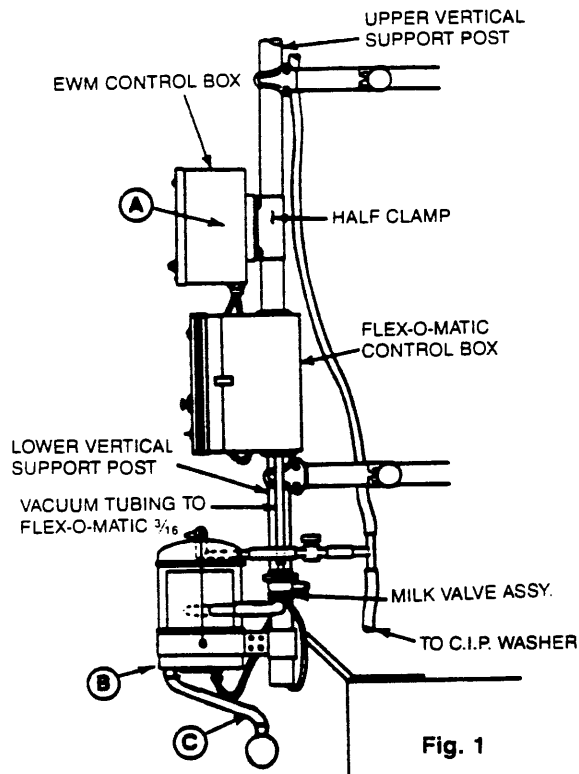
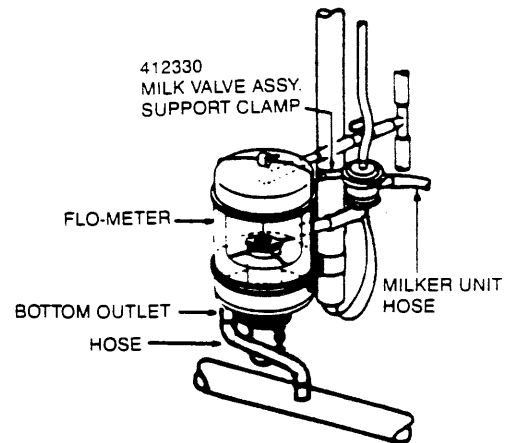

Fig. 1
Fig. 2
1. Mount the EWM Control Box on the upper vertical support post immediately above the Flex-O-Matic Control Box. A half clamp is provided for this purpose. (See A, Fig. 1)
2. Attach the 350015 Flo-Meter in a level position to the bottom of the lower portion of the Flex-O-Matic vertical support post as illustrated. (See B, Fig. 1)
3. Attach milk hose from the bottom outlet nipple of the Flo-Meter to a milk inlet nipple on the milk line. Be sure that this hose does not have a loop or kink in it. It is important that this milk tube run in a downward position. (See Fig. 2 and C, Fig. 1)